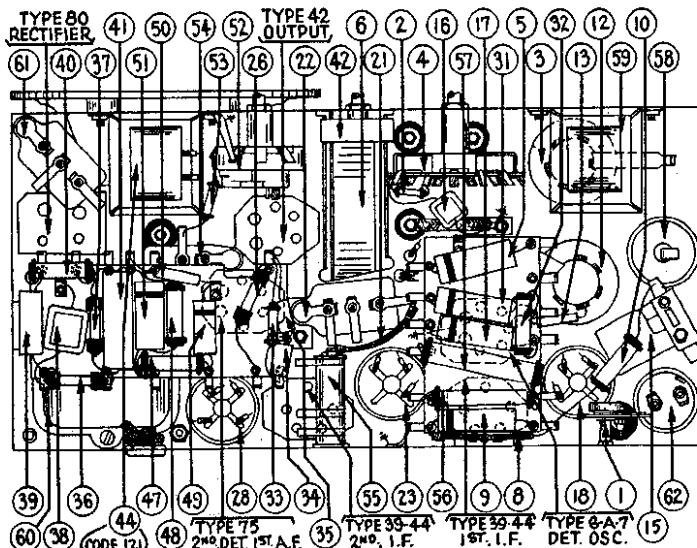

Fig. 4—Bottom View Showing Parts
ADJUSTMENT OF THE WAVE TRAP—Replace the grid clip upon the Detector-Oscillator tube (Type 6A7). Connect the output leads from the signal generator directly to the antenna and ground terminals of the receiver. Set the Wave-Band Switch of the receiver to the standard broadcast band (left hand position) and the Station Selector at the low frequency (540 K.C.) end. Adjust the Wave Trap condenser to give MINIMUM response to a 460 K.C. signal from the signal generator. The Wave Trap ① is located at rear and underneath the chassis, and is shown in Figure 4. It is reached from the rear of the chassis, by inserting the fibre wrench thru the hole near right-hand rear corner of chassis.
Finally set the signal generator at 600, tune in this signal and adjust the oscillator "L. F. condenser", located underneath chassis ④ in Fig. 4) to maximum reading. This adjustment is reached thru the hole in top of chassis, between the two electrolytic condensers (left hand end of chassis when facing rear).
34	*Does not appear in Fig. 4.